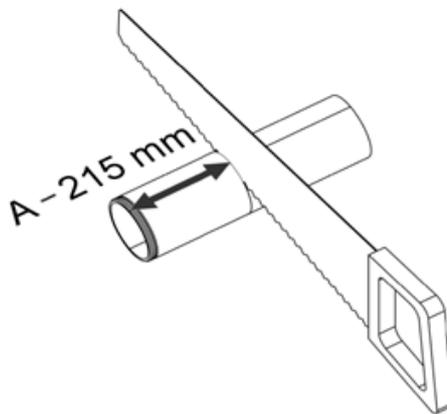

Figure 9 - Shortening of the Ø90 mm tube
The Ø90 mm tube (3) is sawed the length of  $A - 215$  mm, measured from the milled grooves, see Figure 9 below.